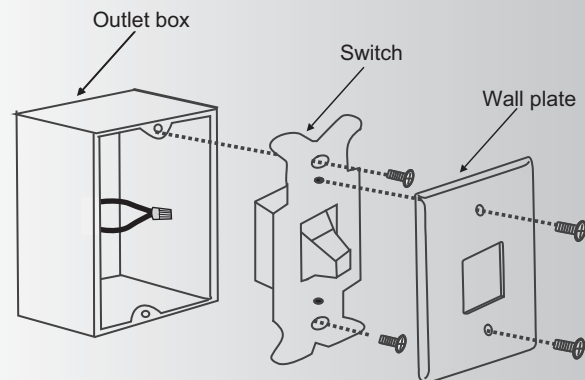

Fig. 23
Step 1. Remove the existing wall plate and the old switch from the wall outlet box. Wire nut the **BLACK** leads (hot) together and push back inside the outlet box. (Fig. 23)